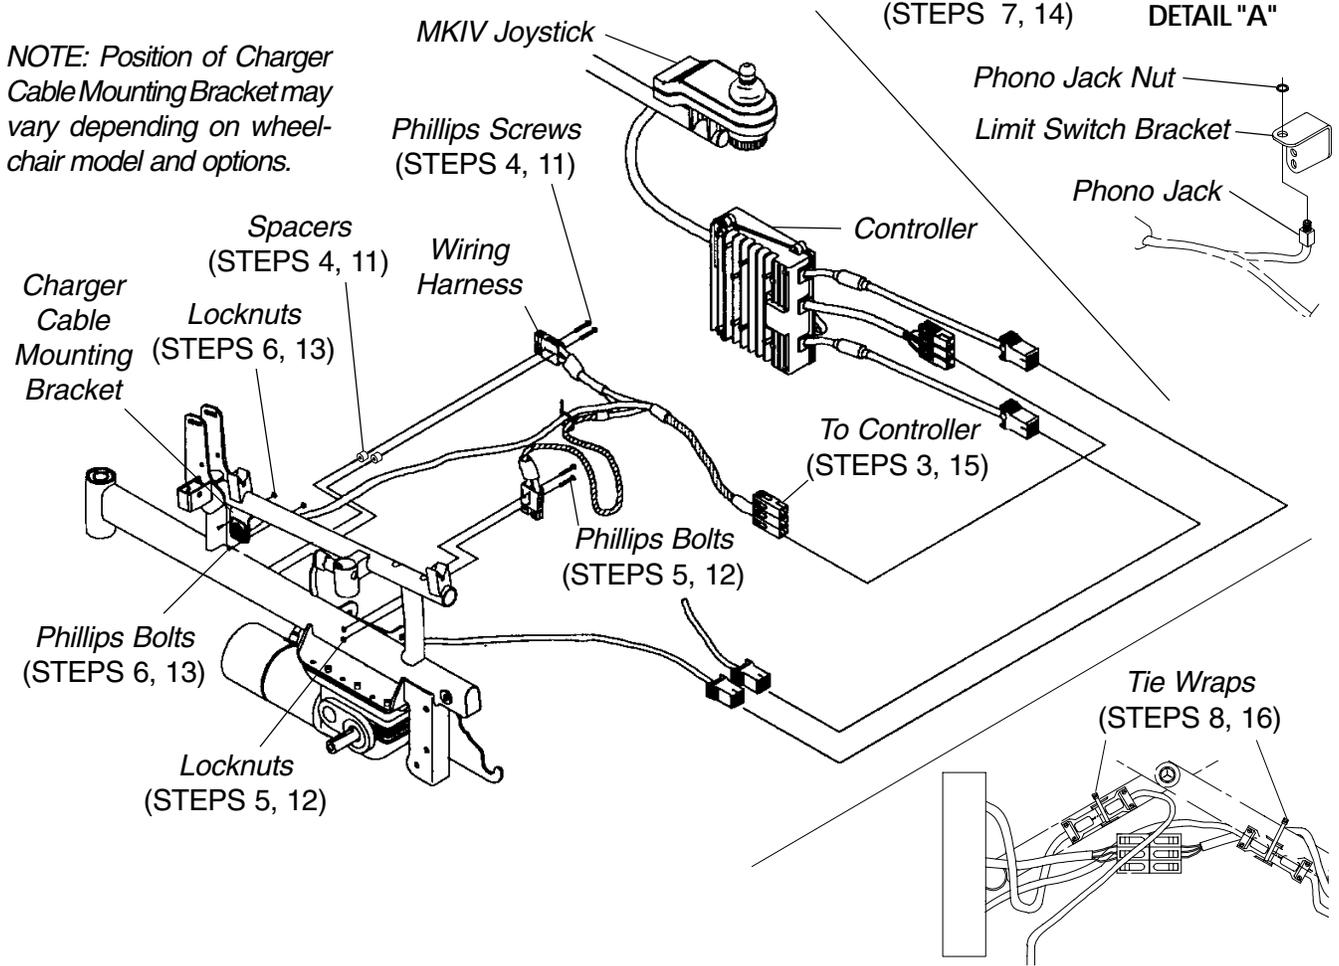

FIGURE 10 - REPLACING WIRING HARNESS
### REPLACING WIRING HARNESS (FIGURE 10)
4. Remove the two (2) phillips screws and spacers that secure the rear battery connector to the wheelchair frame.
5. Remove the two (2) phillips bolts and locknuts that secure the front battery connector to wheelchair frame.
6. Remove the two (2) phillips bolts and locknuts that secure the wiring harness to the charger cable mounting bracket.
11. Position the rear battery connector of the new wiring harness on the wheelchair frame as shown in FIGURE 10 and secure with the two (2) phillips screws and spacers.
12. Position the front battery connector on the wheelchair frame as shown in FIGURE 10 and secure with the two (2) phillips bolts and locknuts.
13. Secure the wiring harness to existing charger cable mounting bracket on the seat frame with the two (2) phillips bolts and locknuts.